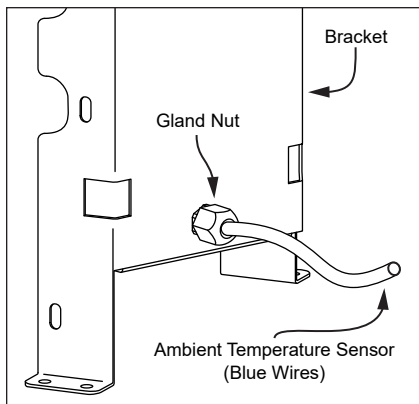

Figure 100 - Ambient Temperature Sensor (Located Behind Bracket)
- 11** Loosen gland nut on backside of bracket (see Figure 100). Pull Ambient Temperature Sensor (blue wires) out through hole in bracket.